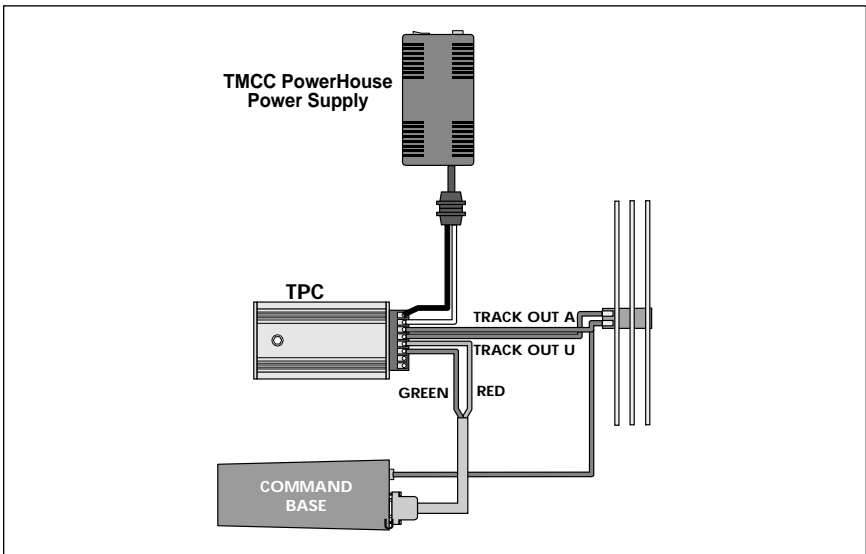

Figure 5. Track connections
Use the terminals labeled TRACK OUT to connect the TPC unit to the track. If you are using Lionel O-27 or O gauge track, be sure to purchase a Lionel Lockon (6-62900). Follow these steps and refer to Figure 5 as you connect your TPC to the track.
**Y**our TPC unit will need to communicate with the Command Base and any other TMCC products you have connected to your TPC unit. To make these connections, you will need the Command Base Cable (available separately, 6-14191 for a 6' cable and 6-14195 for a 20' cable). Follow these steps and refer to Figure 5 on page 7 to connect your TPC unit to the Command Base.